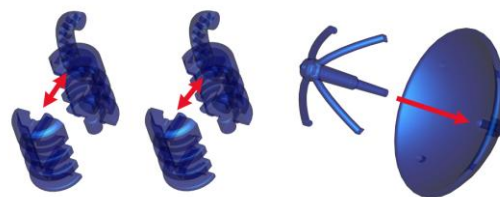

Fig. 4
2. Combine the exhaust pipe parts (7) and insert the antenna support (11) to the antenna dish (10) as shown in Fig. 4.